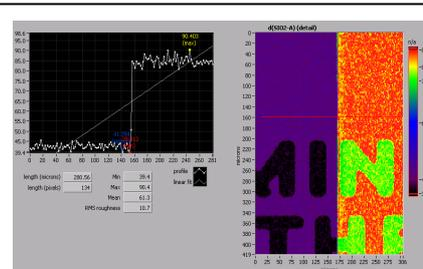

Fig.4: Thickness profile (in nm, left) along red line in the thickness map right,
- Record a well focussed contrast image (fig.3) Let the EP³ record a set of contrast images from which it calculates maps of Delta and thickness map of the layer (fig.4).
A delta map is obtained in the EP³-View software from recording a series of images with variable contrast, i.e. variable polarizer angle. Each of these images (fig.3) is well focussed due to Nanofilm's unique objective scanner. The polarizer angles of signal minimum are interpolated for each pixel of the field of view. The map of minimum angles is converted into a delta map by a formula of nulling ellipsometry. The conversion of the delta map into the thickness map (fig.4, 5) uses the same fitting algorithm as explained above. Since the layer thickness is said to vary from 30 to 90 nm. A short wavelength e.g. 532 nm would cause an ambiguity in the relation of the observable Delta and the layer thickness. A unique relation is necessary for the calculation of the thickness map from the Delta map. Therefore a long wavelength, i.e. 781 nm, is selected for the recording of the delta map and the fit range for the thickness